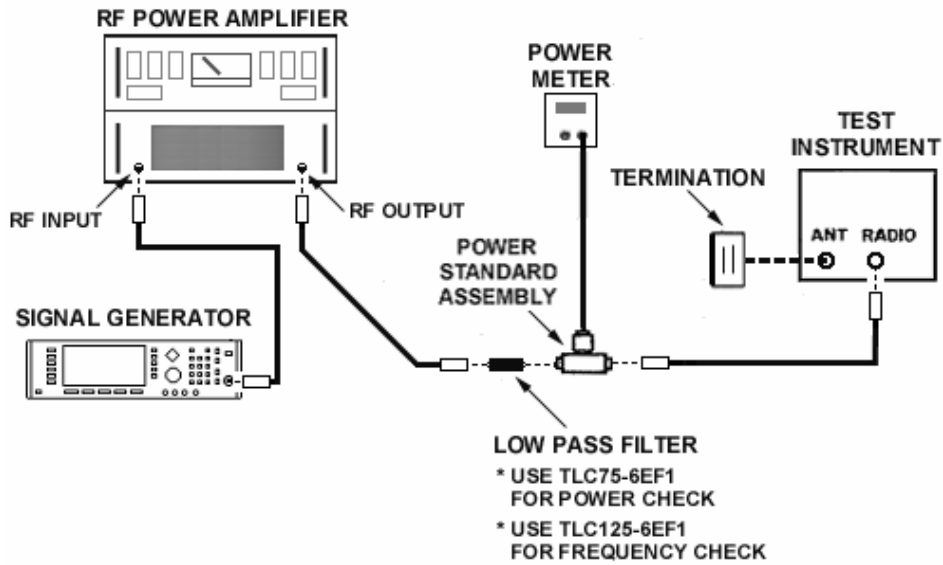

Figure 2. Power and frequency check – equipment setup.
- (1) Connect equipment as shown in figure 2.
- (2) Set **MODE** switch to **FREQ** position.
- (3) Adjust signal generator and RF power amplifier levels for approximately 5 W as indicated on RF power amplifier meter and adjust signal generator frequency until TI display reads 30.0 MHz. Signal generator frequency display will indicate between 29.998 and 30.002 MHz.
- (4) Repeat technique of (3) above for TI display and signal generator frequency display indications listed in table 4. Signal generator frequency display will indicate within limits specified.